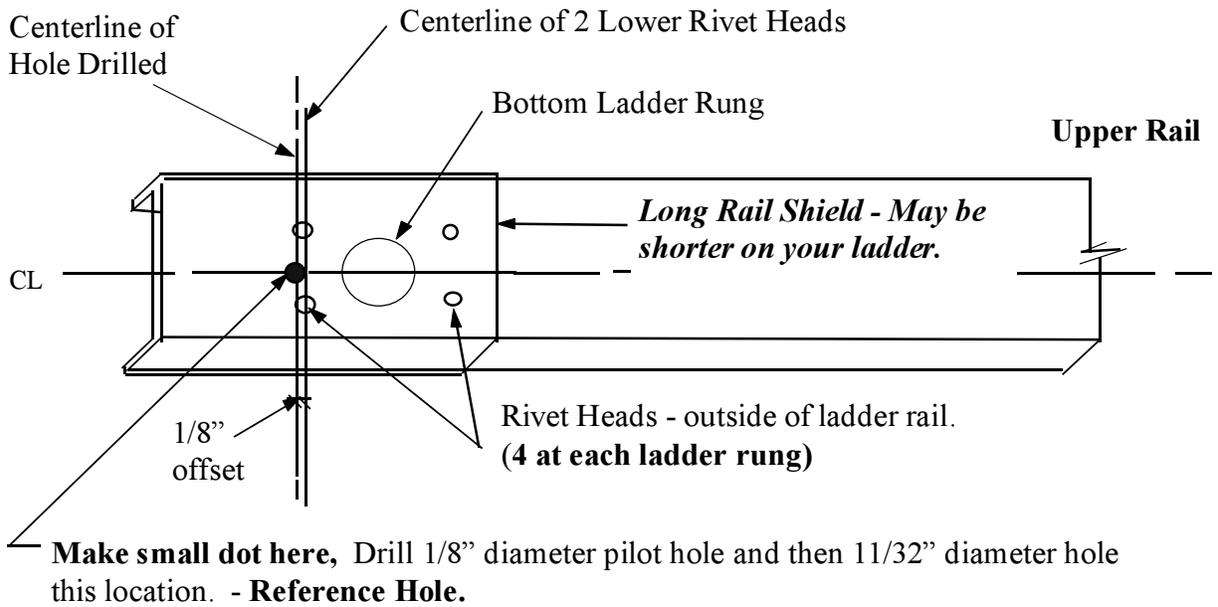

Figure 3-1A
2. Locate the 4 rivet heads at the lowest (first) ladder rung. These rivets secure the rung plate onto the ladder rail. (See **Figure 3-1A** for Werner and similar ladders and **Figure 3-3A** for Louisville and similar ladders). This next step will locate the first hole to be drilled. Using a black felt pen, mark a dot between the two rivet heads as shown in **Figure 3-1A** for Werner and similar and **3-3A** for Louisville and similar ladders. Drill a 1/8” diameter pilot hole at this dot. Next, drill an 11/32” diameter hole at this same location. This hole is to be drilled through the outer face of the ladder rail and all the way through the metal flange of the inside rung plate.
- **IMPORTANT NOTE:** Skip Step 6 if your ladder does not have a long, METAL, FOOT ASSEMBLY / RAIL SHIELD, as shown in either Figure 3-1A or 3-3A.